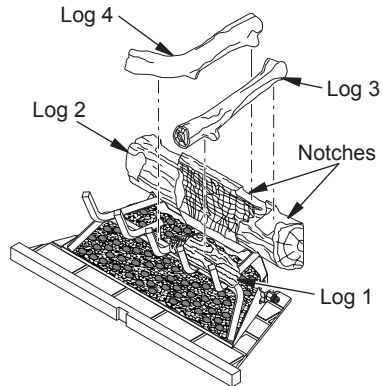
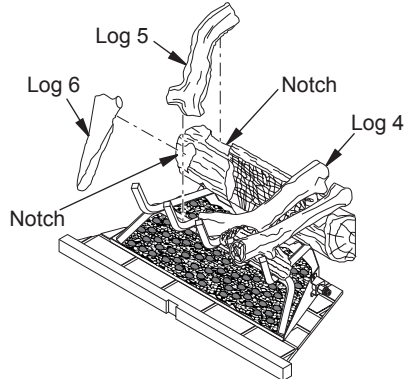
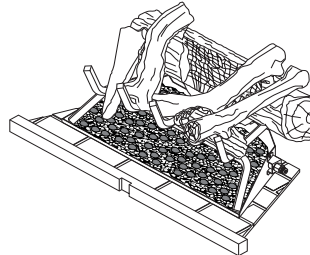

Figure 24 - Installing Logs 3 and 4
Figure 25 - Installing Logs 5 and 6
Figure 26 - Logs Installed for M36, M36P, VME36 and VM36P Models
3. Place log 3 into notch on log 2, resting front end on top of log 1 (see Figure 24).
4. Place upper end of log 4 into notch on log 2 as shown in Figure 24. Rest lower end of log 4 onto middle grate finger as shown in Figure 25.
5. Place upper end of log 5 into notch on left of log 2 (see Figure 25). Rest lower end of log 5 on grate as shown in Figure 26.
6. Insert lower end of log 6 between first two grate fingers as shown in Figure 26 and position upper end of log 6 into notched area on front of log 2 as shown in Figure 26.